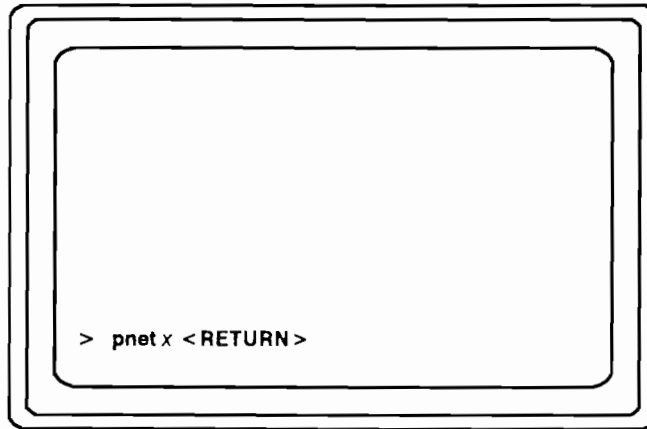

Figure 3-4. Selecting the Primary Network
4. Enter the **pnet** command as shown in Figure 3-4. Substitute one of the following values for *x*: